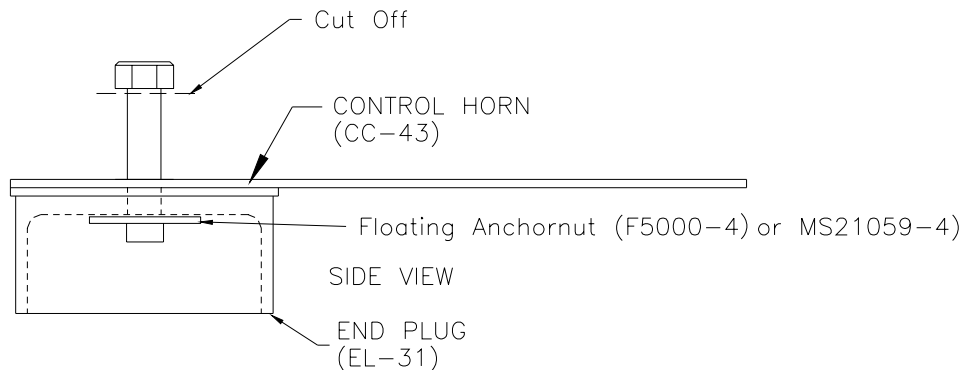

Figure 20.6.4
- 10) Install a AN4-16A bolt into the anchor nut of each horn end plug. Tighten snugly. Grind or cut off the head of the bolt. Repeat for each horn. Figure 20.6.4.